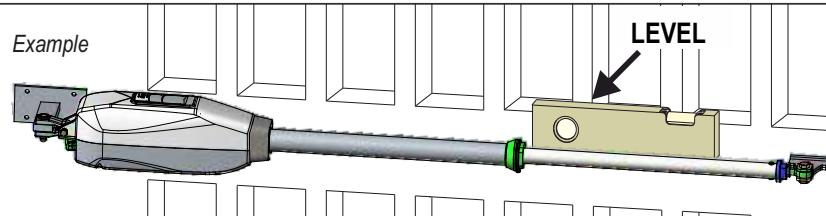

Fig. 13
- For a proper operation, it is important to place as the operator as the front and rear brackets in a perfectly horizontal position with the help of a level, as shown in Fig. 13
- **THE REAR BRACKET MUST BE POSITIONED SO THAT THE OPERATOR IS PERFECTLY HORIZONTAL - Fig. 13**